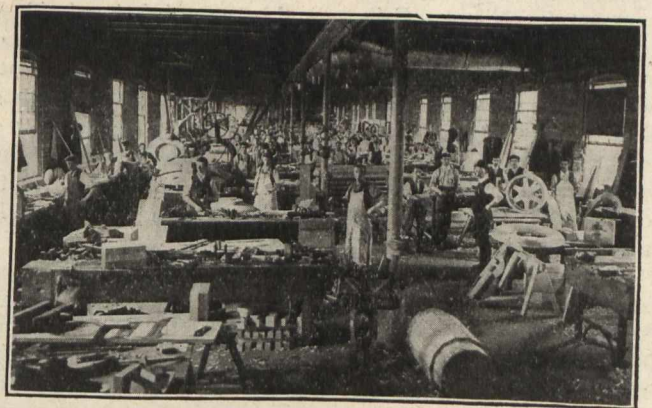

Fig. 4.—Pattern Shop.
fortunate in getting a snap shot (Fig 4), when every bench was occupied, and work at high pressure. In this shop, 220 feet long by 50 feet wide, over 50 men were at work, on benches fitted with Emmert Patent Vises; or, on the latest modern labor-saving machines: Band saws, jointers, circular planers, thicknessers, trimmers, tool sharpeners, etc.; nearly all electrically driven. On each pillar down center of building (6) is fixed a glue pot heated by electricity, and controlled by the foreman in his office. Protection against fire is adequate, for there is a complete sprinkler system and water bucket on every post. The adjustable sage green window blinds can be transferred from one side of shop to the other to suit the course of the sun. Wash basin and well kept lavatories are provided for the men. Impressed we were with the orderly, business-like way in which this section is run. We learned that two years ago only eight skilled pattern-makers were employed, whereas now there are forty. The 80,000 feet of yellow pine lumber piled on the storage ground at the north end shows that the floor below, now used as a sand, coke and general foundry storage room, will soon have to be utilized in order to meet the demands of the increasing business.